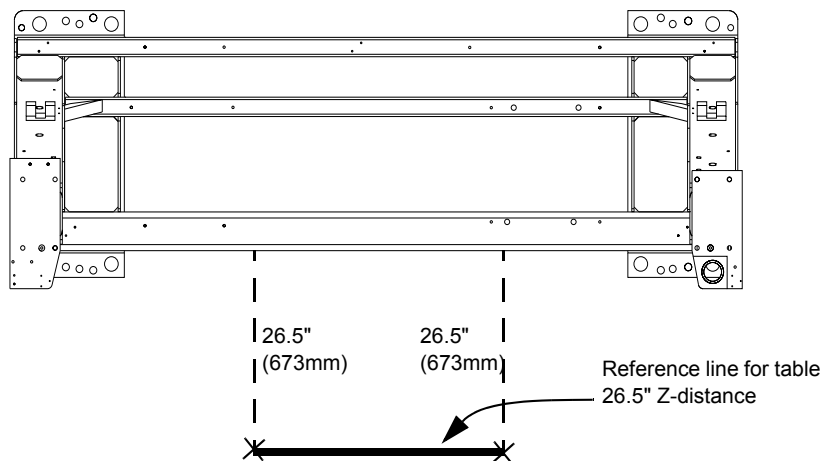

Figure 1-12 Table Base Reference Line and Marks
- 5.) Using a measuring tape, measure and mark two spots 673 mm (26.5 in.) from the gantry base frame (under the front cable tray) out toward the table floor cutouts, as illustrated by X marks at the bottom of the dotted lines in Figure 1-12.
- 6.) Snap a chalk line using the two 673 mm (26.5 in.) marks. This line should be parallel to the gantry and 673 mm (26.5 in.) from the front of the gantry base. See Figure 1-12. In a later section, you will move the table against the 673 mm (26.5 in.) mark and center it over a table center line (to be drawn at that time.)